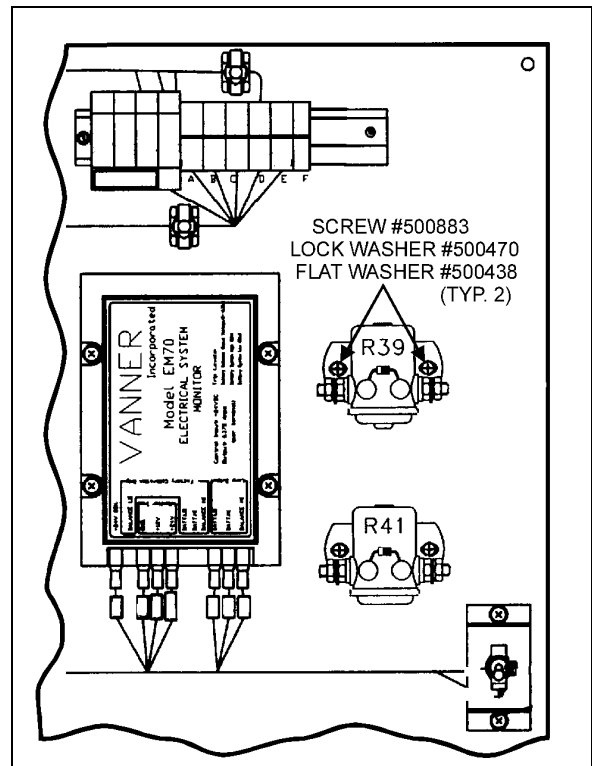

FIGURE 4
5. Position relay R39 as illustrated in figure 4, then fix using tapping screws (#500883), lock washers (#500470) and flat washers (#500438).
6. Position relay R41 as illustrated in figure 4, then fix using tapping screws (#500883), lock washers (#500470) and flat washers (#500438).